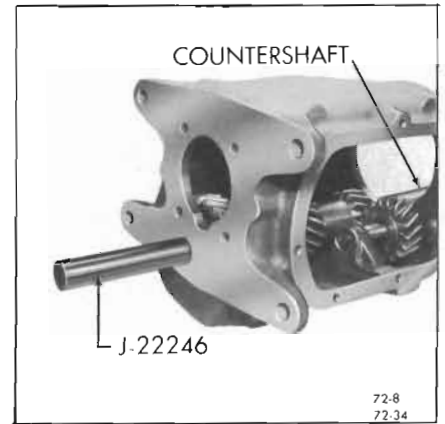

Figure 72-34—Installing Countergear
2. Install countergear into case. Install countergear shaft from rear of case. Make certain woodruff key is in position. See Figure 72-34.